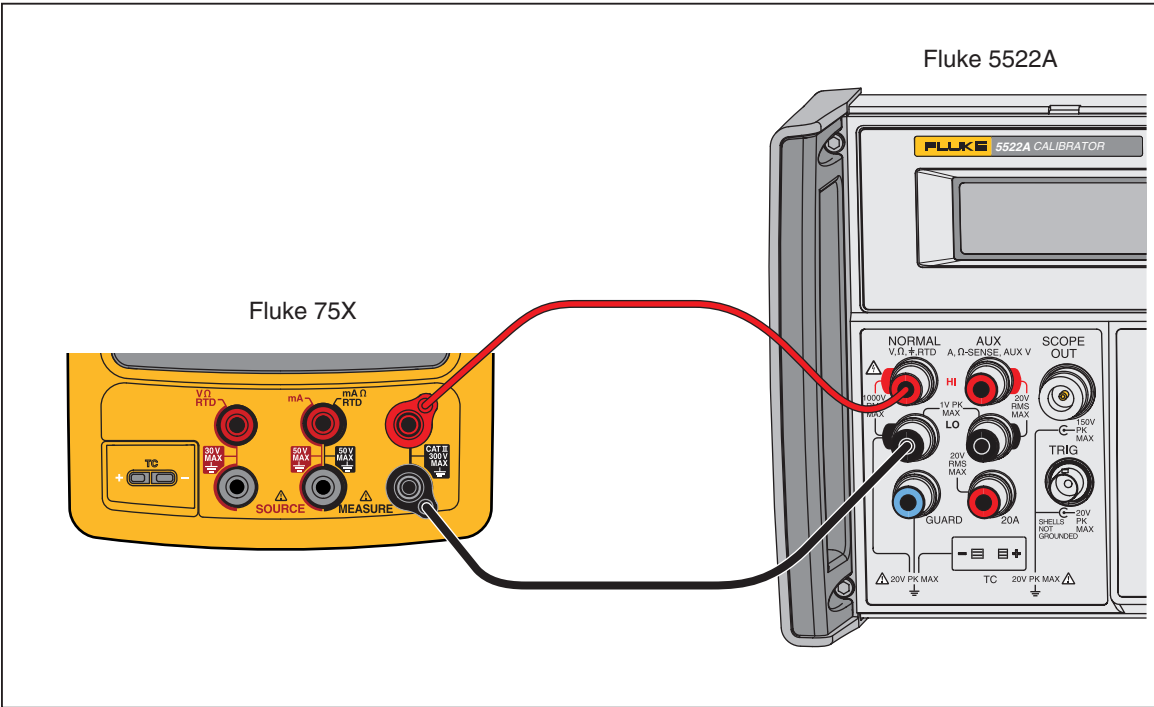

Figure 4. Frequency Measurement Verification Connections
- 1. Connect the UUT as shown in Figure 4 .